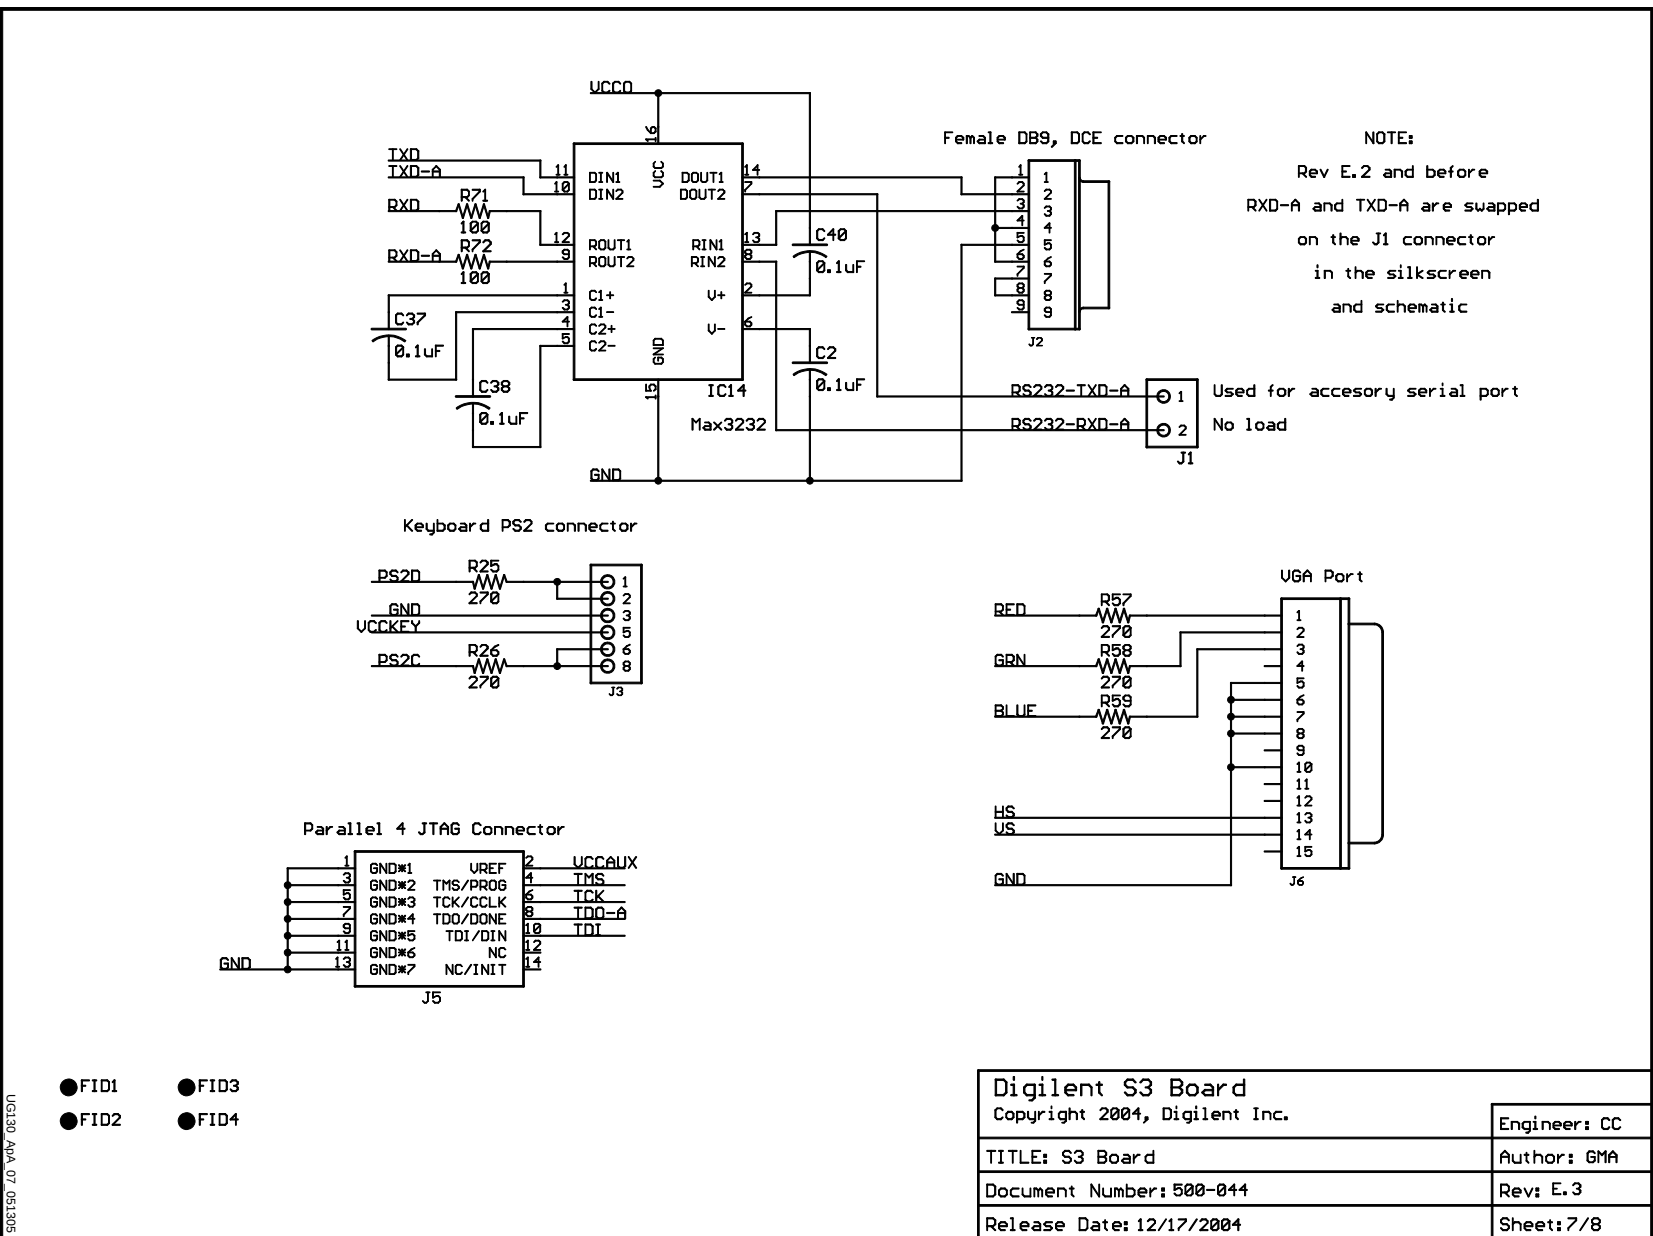

Figure A-8: **2x256Kx16 Fast Asynchronous SRAM Interface**
- Figure A-8, “2x256Kx16 Fast Asynchronous SRAM Interface”